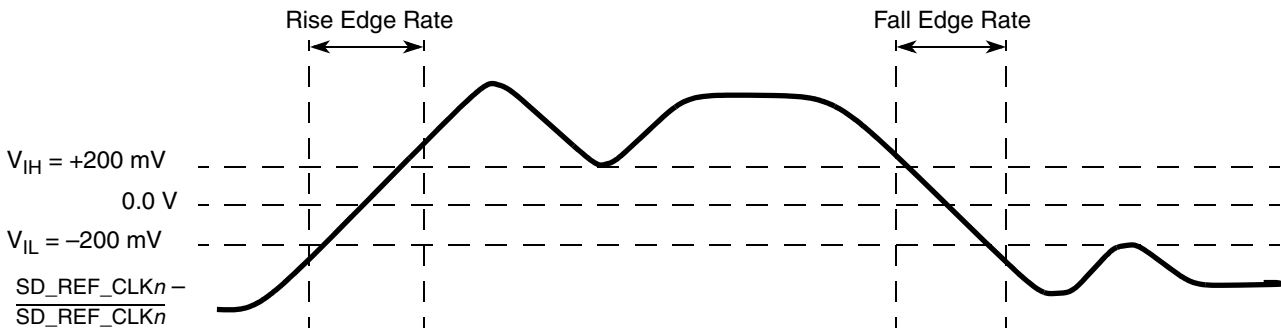

Figure 47. Differential Measurement Points for Rise and Fall Time
3. Measured from –200 mV to +200 mV on the differential waveform (derived from SDn_REF_CLK minus $\overline{SDn_REF_CLK}$). The signal must be monotonic through the measurement region for rise and fall time. The 400 mV measurement window is centered on the differential zero crossing. See Figure 47.